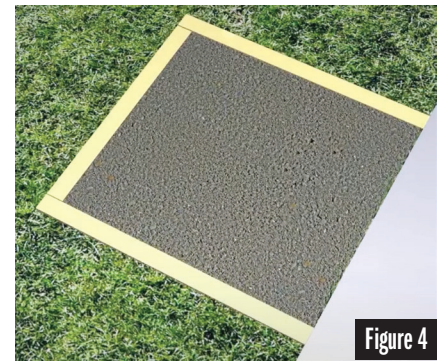

Figure 4
STEP 5: Continue filling hole with concrete until nearly full. Replace the frame and fill with cement until it is level with the playing surface. See Figure 4.